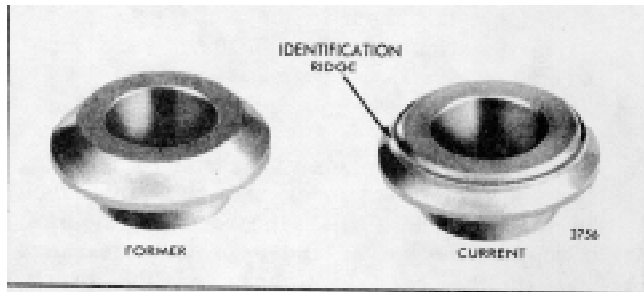

Fig. 19. Former and Current Exhaust Valve Spring Caps
**NOTE:** The current valve spring cap has a ridge for identification purposes on the upper tapered surface (Fig. 19).